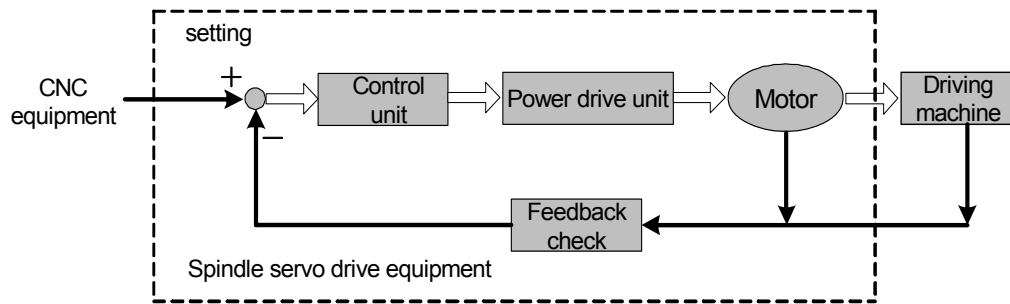

Fig.1-2 Basic configuration of AC servo drive device
The servo unit receives the speed (or position) command from a control unit (PC) like computerized numerical control system (CNC) to control the frequency and magnitude of the motor winding current, and make the speed (or rotor angle) of motor rotor approach to the speed (or position) command value. The deviation between the actual value of motor rotor speed (or rotor angle) and the command value is obtained through the feedback signal from the encoder. In addition, the servo unit constantly adjusts frequency and magnitude of the motor winding current to make the deviation between the actual value of motor speed (or rotor angle) and the command value within a required range. The basic configuration of the servo system is shown in Fig 1-2.